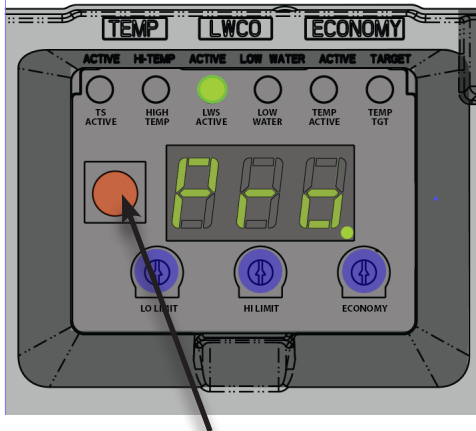

Figure 27. The Test (Reset) Button
1. Turn the LO TEMP dial to access the Program Mode – indicated in the display as Pro See Figure 27 on page 35.